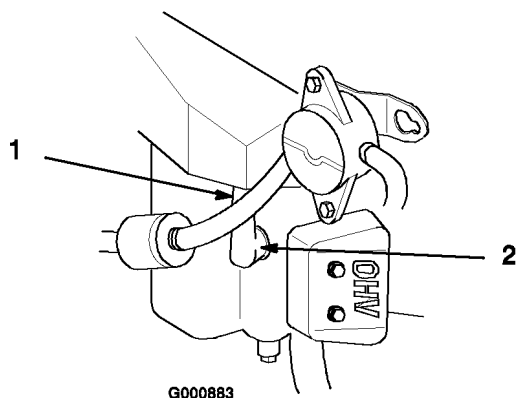

Figure 28
3. Pull the wire(s) off of the spark plug(s) (Figure 28). Clean around the spark plug(s) to prevent dirt from falling into the engine and potentially causing damage.
3. Push the wire(s) onto the spark plug(s) (Figure 28).